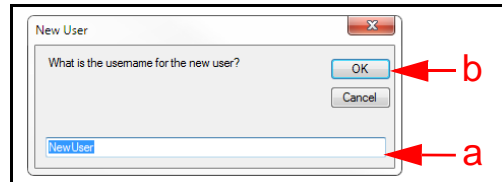

Figure 8 Enter User Name Screen
3. When the 'New User' Screen appears, enter a Username for the User being added (Figure 8 a); then click on the 'OK'  Screen Button (Figure 8 b).